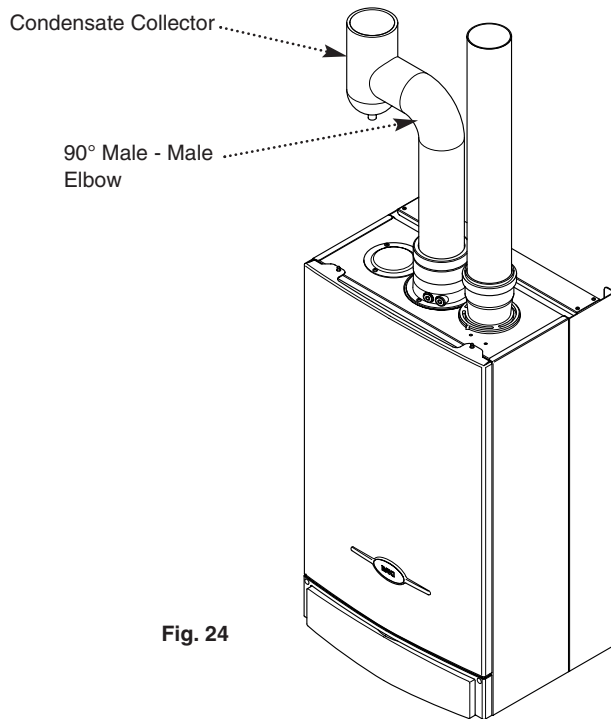

Fig. 24
11. The condensate collector must be fitted in the flue duct as shown and described in Section 7.11 (Fig. 24).